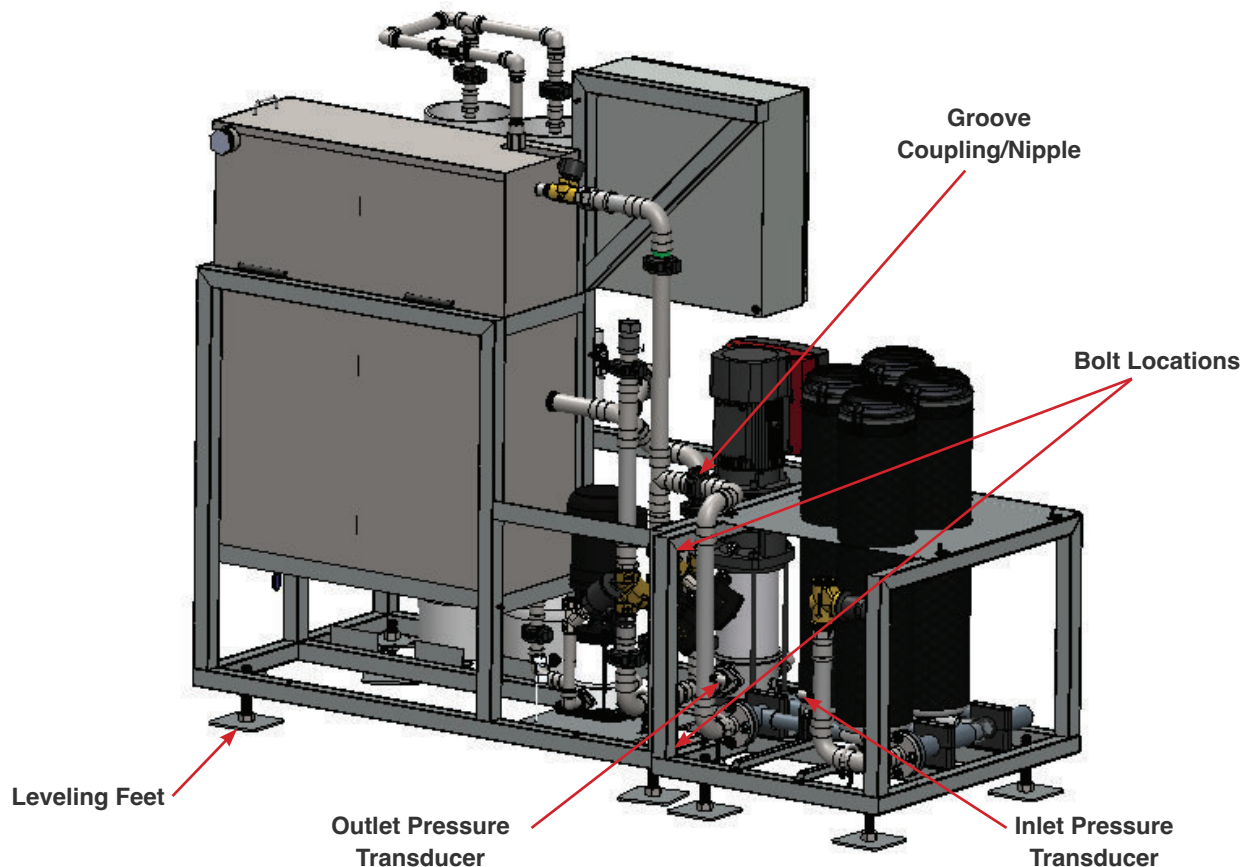

Fig. 3.2.1 - 1 - Carbon Block skid installation
3. Slide the carbon block groove nipple to the groove coupling and tighten back up (Fig. 3.2.1 - 1)
4. Bolt the carbon block skid to the RO skid using (4) 4-inch bolts.